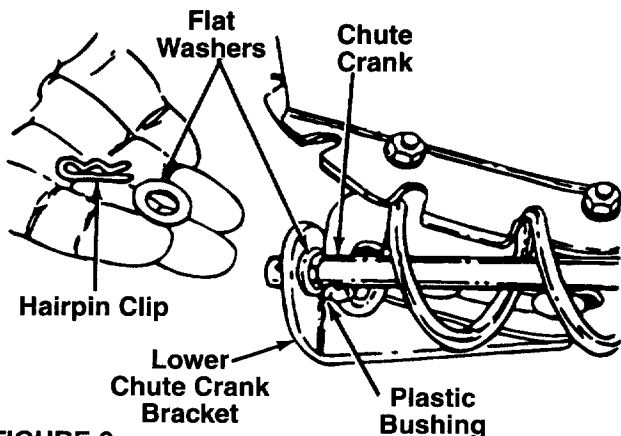

FIGURE 6.
4. Place one flat washer on the end of the chute crank, then insert the end of the crank into the hole in the plastic bushing in the chute crank bracket. See figure 6. Place the other flat washer on the end of the chute crank, and insert hairpin clip into hole in the end of crank.